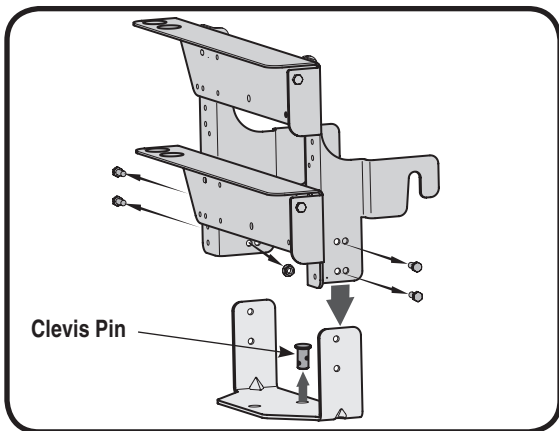

Figure 9
4. Remove the hairpin clip and clevis pin from the rear of the mounting bracket assembly. See Figure 9.